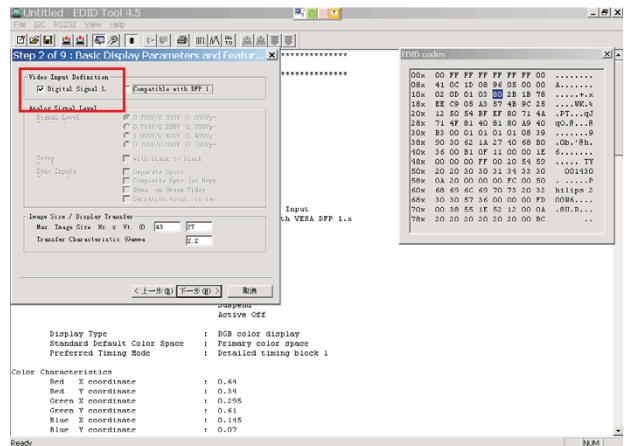

Fig. 22
- Click Next, bring up Fig. 22. Then select Digital Signal as below